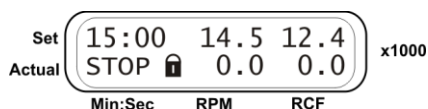

Figure 6. Quick spin
- Press the **Open** key (fig. 6/5) and open the outer lid lifting it upwards by hand.
- Firmly press on the covering lid in two places over both hinges to close it. The clicking sound of the lock and the indication **STOP** in the lower line of the display (see figure 6) confirm that the lid is closed.
5.7. Place the rotor lid on the rotor and firmly press the lid holder down around the latch (fig. 2/1). Firmly press on the covering lid in two places over both hinges to close it. The clicking sound of the lock and the indication STOP with a lock icon in the lower line of the display (see figure 6) confirm that the lid is closed.